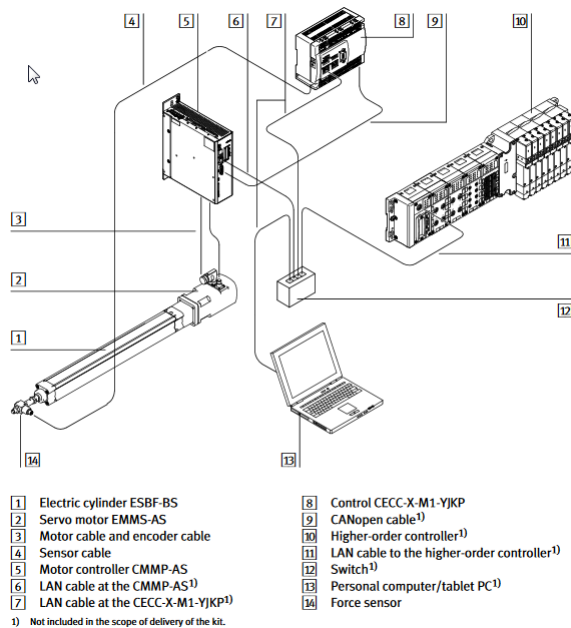

Figure 3-19: Connection overview
1. The servo press kit must be connected like in the shown Figure 3-19: Connection overview.